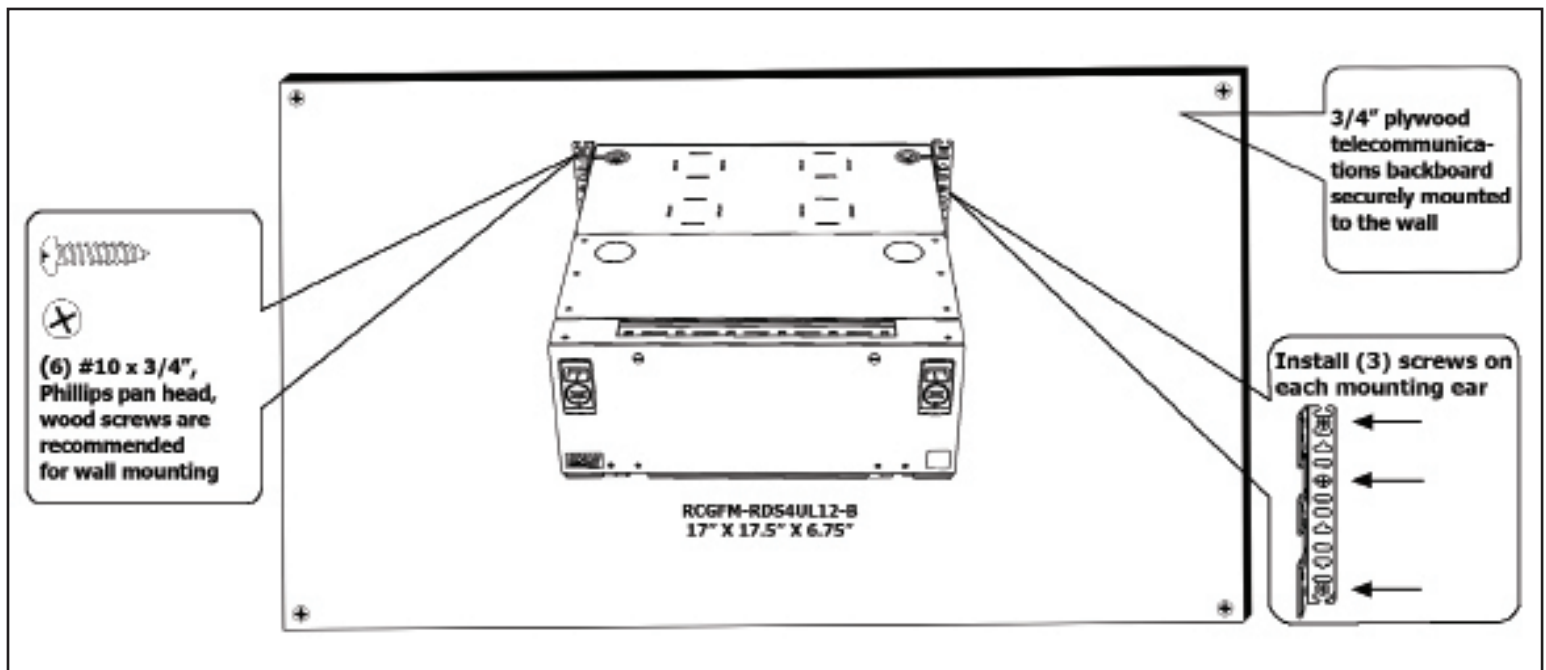

Figure 4
1. While holding the panel in place, flush with the backboard, check that the panel is level and mark hole locations through the ears as indicated on Figure 4.